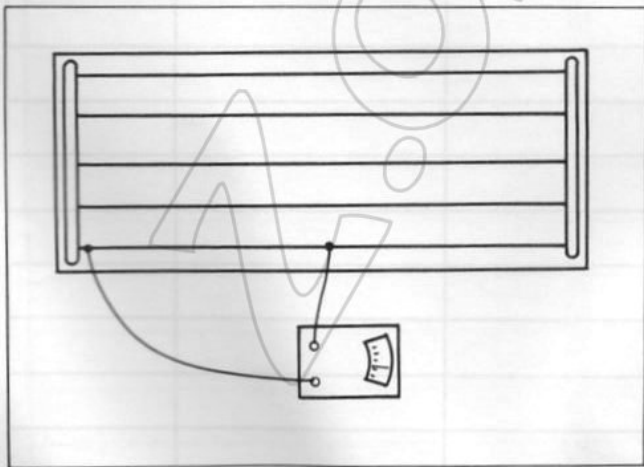

Fig. BE-46 Checking for broken heat wire with ohmmeter
(3) Method 3 — With an ohmmeter setup shown in Figure BE-46, locate one lead on each end of a heat wire and the other in the middle section of that wire. If the meter registers, on a specific grid line, a value twice as much on any other line, that line is broken.